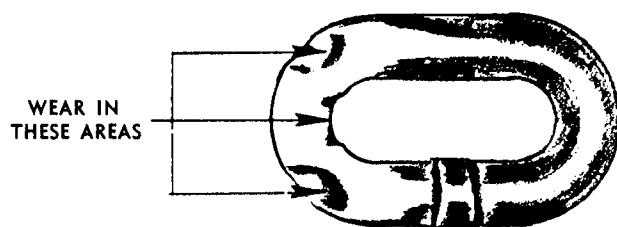

FIGURE 4-1 TYPICAL WEAR ON LINKS
b. Inspect each link for wear to the diameter of the link (see Figure 4-1). The nominal link diameter is .281 inch for the chain on model CB-1 and .375 inch for models CB1 1/2, 2, 4, 5, 6 and 8. Models CB-3, 10 and 12 have nominal link diameter of .437 inch. If the diameter of any link of